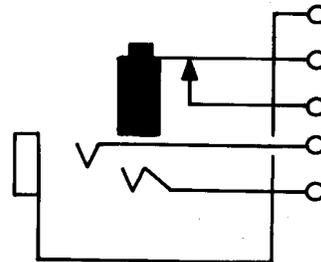

Fig. 11—445A Jack
2.09 445A: This single mounted jack (Fig. 11) is intended to be mounted with the springs in a vertical plane. This jack is arranged to be used with the 309 or similar-type plugs.